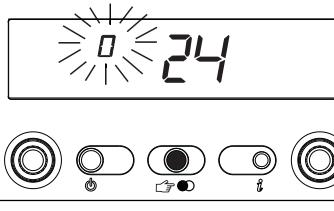

Fig. 78
- **R.A.I.-MIX R.S.I.:** turn the domestic hot water selector until the value on the display is 0 (fig. 78)